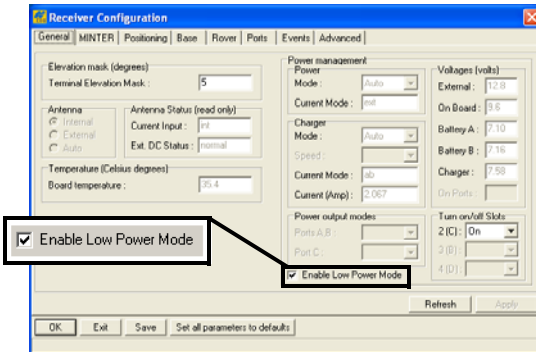

Figure 2-11. Enable and Apply Power Settings
7. Select the *Enable Low Power Mode* check box to put the receiver's processor into low power consumption mode (Figure 2-11).